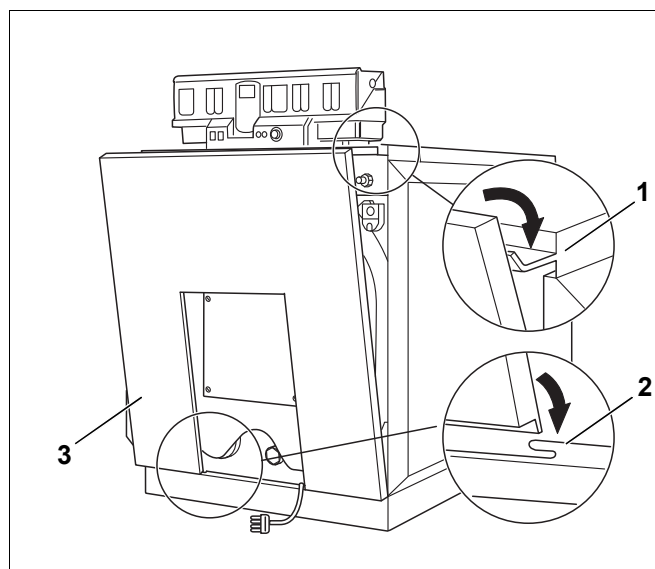

Fig. 41 Front wall installation
- Hook the front wall (Fig. 41, [3]) at the bottom centre into the plinth front (Fig. 41, [2]).
- Hook the front wall at the top into the edge of the front hood (Fig. 41, [1]).